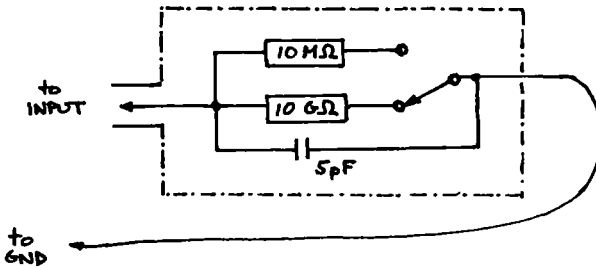

Fig. 3 Diagram of a model circuit.
E. Model Circuit. Fig. 3 shows a suggested model circuit for verifying the operation of the Patch Clamp. A switch selects between a 10 megohm resistance, modeling an open pipette, and a 10 gigaohm resistor, corresponding to a giga-seal. The capacitor models the pipette capacitance and can be used to check the capacitance transient cancellation. Current-clamp operation can also be checked using the 10 gigaohm switch setting.